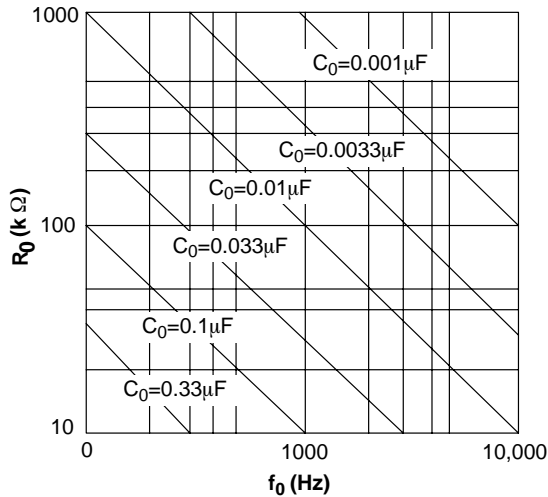

Figure 7. VCO Frequency vs. Timing Capacitor
- c) Calculate value of C_0 from design equation (1) or from *Figure 7*: